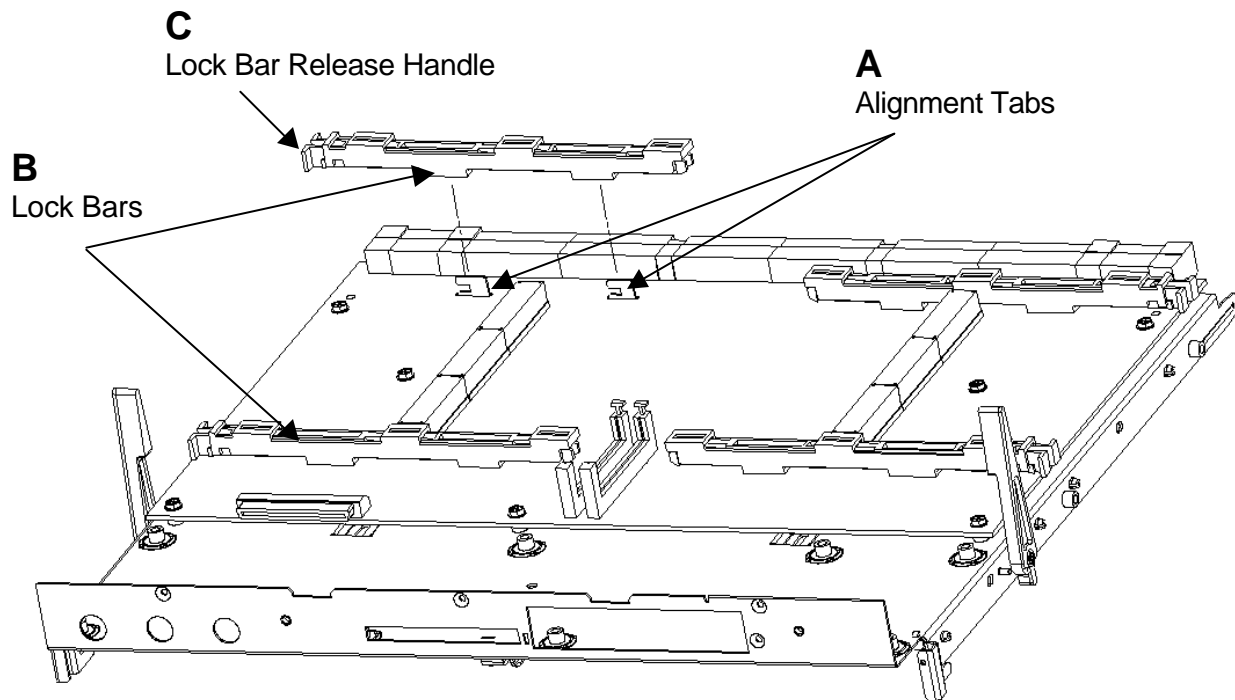

Figure 2-8: Profusion[®] Carrier Tray
Assembly of the Profusion carrier board and mezzanine boards, to the Profusion carrier tray, is performed outside the chassis. To start the assembly, install the Profusion carrier to the Profusion tray by aligning the eight tabs on the tray with the slots on the board (see Figure 2-8 (A)). Next, install the FPC board by passing the FPC switches through the switch openings in the tray and then moving back into place for connection to the Profusion carrier board. Place the four lock bars over the protruding tabs and onto the Profusion carrier board (B). The release handles of the lock bars (C) should be pointed to the outside of the board and should be in the unlocked position. Place the first mezzanine board on the left side of the Profusion carrier board, oriented so the mezzanine board does not extend over the 1008-pin grand connector on the Profusion carrier board. Press down in the center of the mezzanine board until it is seated